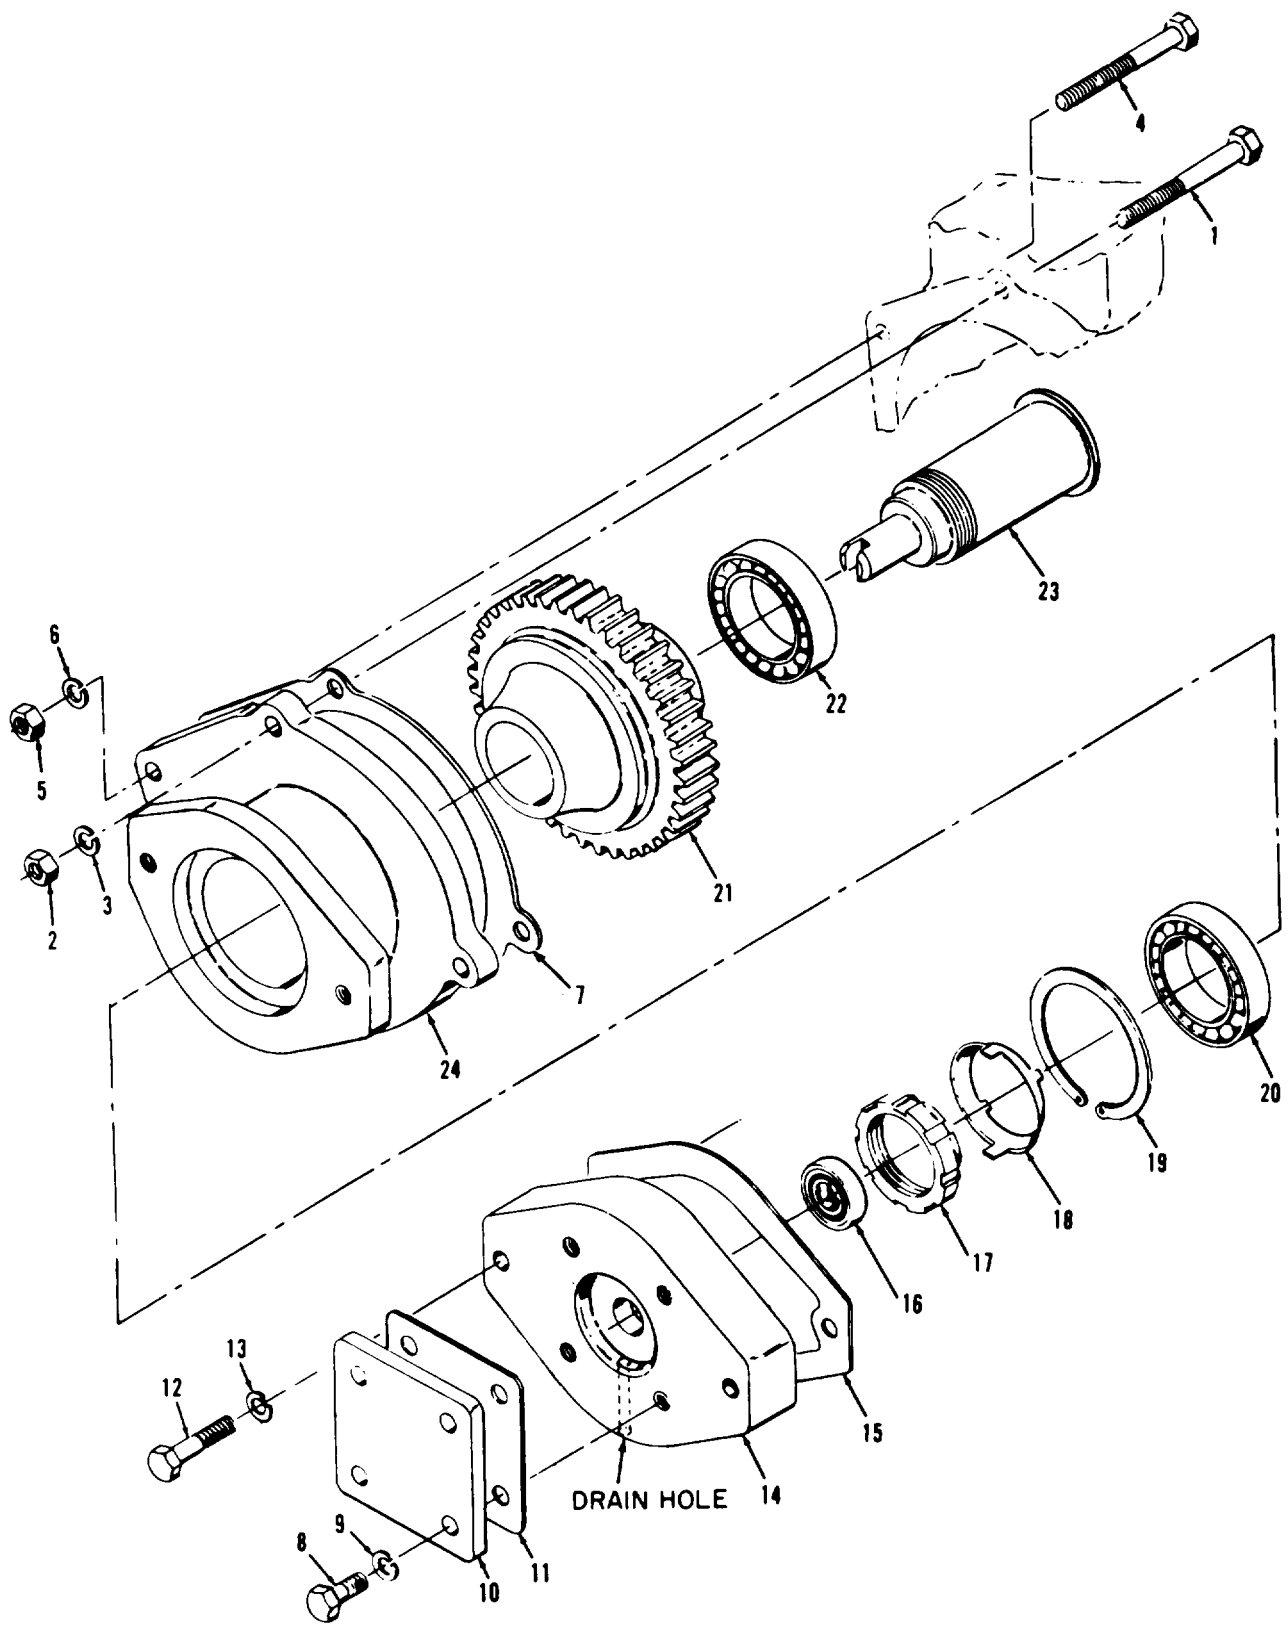

Figure 8-24. Hydraulic pump drive group, exploded view
a. Refer to paragraph 8-94 and remove hydraulic pump (8) (precise generator sets only).
b. Refer to figure 8-24 and remove the hydraulic pump drive group by removing screws (1 and 4), nuts (2 and 5), lockwashers (3 and 6) and gasket (7).
Refer to figure 8-24 and disassemble hydraulic pump drive group in the order of index numbers assigned. Pay particular attention to the following:
Refer to figure 8-24, and reassemble hydraulic pump drive group in the reverse order of index numbers assigned. Pay particular attention to the following:
a. Refer to figure 8-24 and install the hydraulic pump drive group, secure with bolts (1 and 4), nuts (2 and 5), lock washers (3 and 6) and gasket (7).
Legend to figure 8-24: